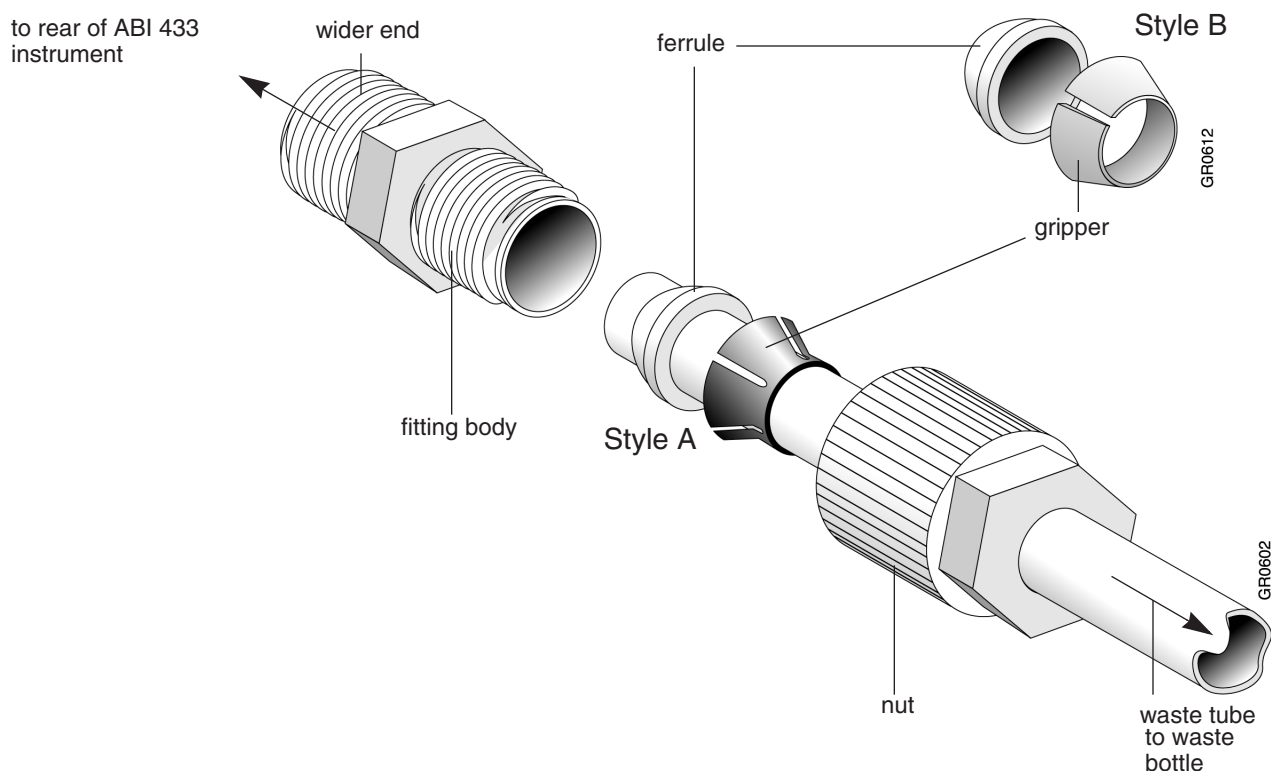

Figure 6-14. Waste port fitting assembly
2. The new waste port is one of two different assemblies that have two varieties of ferrule and gripper. Identify which assembly you have received by comparing the ferrule and gripper with the illustrations shown in Figure 6-14.
5. Slide the gripper onto the waste tube (Figure 6-14).